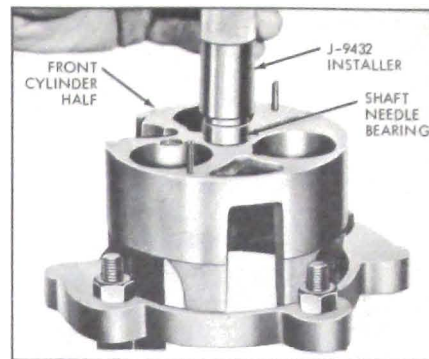

Figure 11-125—Installing Shaft Needle Bearing
16. Examine the shaft needle bearings. There is one in each cylinder half. If a bearing is damaged, remove bearing with a suitable socket or punch. Install new bearing with J-9432 so that lettering on bearing is toward outside of cylinder half. See Figure 11-125.